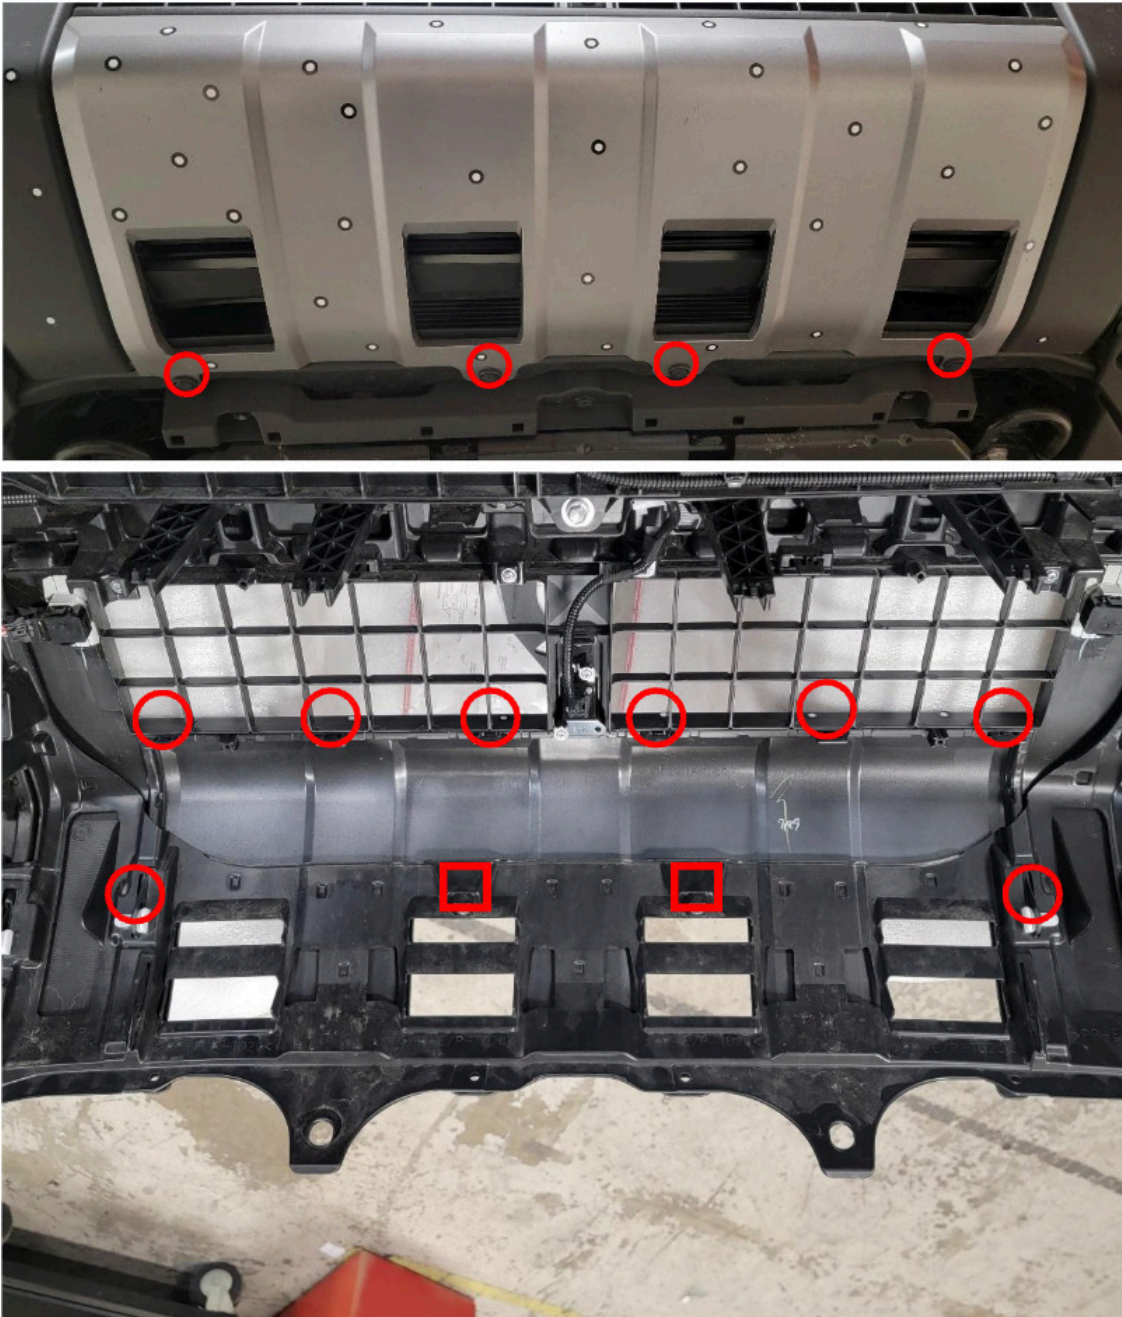

Figure 17-18.
15. Using a panel pry tool and Phillips head screwdriver, remove the lower fascia covering by removing the four (4) push pins from the front, then the two (2) Philips head screws, two (2) white retaining clips and six (6) body clips from the back. Figure 17-18.